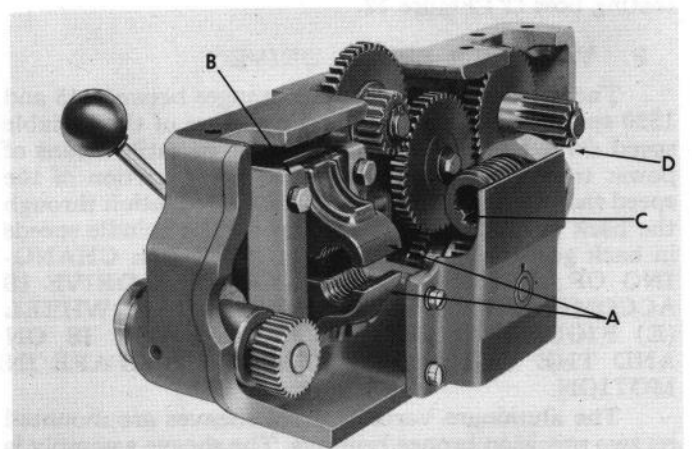
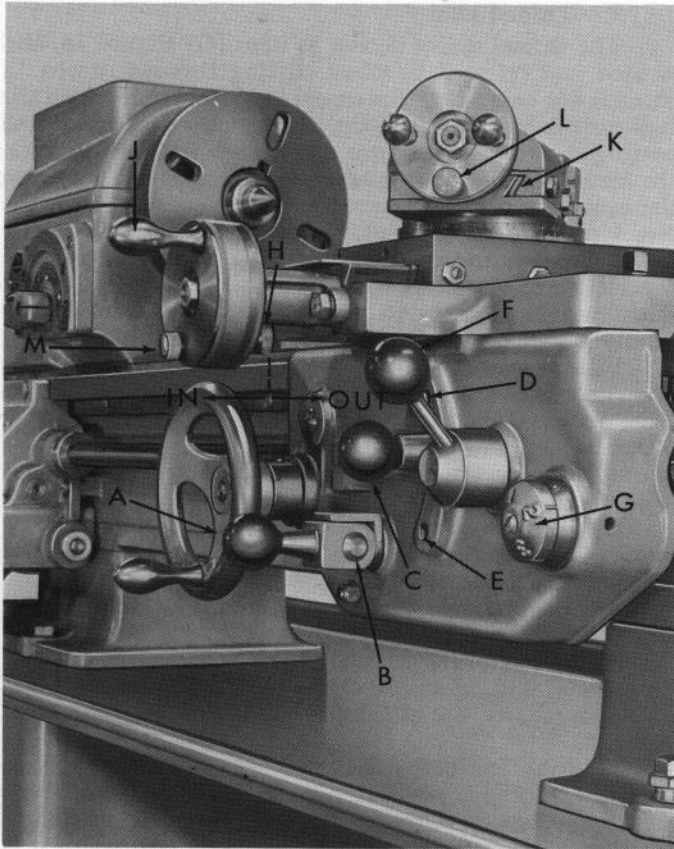

Figure 17
Figure 18
The apron is of double-wall construction for increased strength and rigidity and has an oil sump which supplies oil to lubricate the gears, half-nuts and lead screw. Figure 17 is a view of the interior of the apron showing the half-nuts (A) half-nut shoes (B) which are slidably mounted into the apron wall, the keyed lead screw worm (C) and the gearing (D).
To make repairs to the apron it is advisable to remove the carriage from the bed. First, remove the tailstock, then unbolt the right hand bearing support bracket cap screws which hold the apron to the saddle and which are located on the top of the saddle. Loosen these three cap screws enough so that the apron will drop about a half or three-quarters of an inch. Move the carriage to the right and off the lathe bed. When reassembling the apron, be sure to engage the key in the worm gear (C) Figure 17, into the keyway in the lead screw and move the carriage onto the bed. When retightening the three cap
Clutch (A) Figure 18, controls both longitudinal motion of the carriage and the feeding of the cross slide. It may be adjusted by loosening set screw (B) Figure 18, and rotating handle (A) clockwise full turns, not half turns, until proper tensioning is secured, retighten set screw (B). If, however, this adjustment is too tight and one full turn counterclockwise proves to be too loose, a half turn is necessary. This means that the angle type stop must be rotated so as to have the stop part on top for proper operation of the clutch control knob. To do this, loosen set screw (B) and rotate handle (A) and angle stop together until disengaged from clutch shaft (not shown). Do not lose the relative position of the stop to the control knob when disengaged, but carefully rotate the stop $\frac{1}{2}$ turn and reassemble to clutch shaft and adjust as above mentioned.
Shifter lever (C) Figure 18, is moved upward to lock in hole (D) to feed the carriage and is moved downward to lock in hole (E) to traverse the cross slide. The center position, as shown in the picture is the neutral position, used when the half-nuts are to be engaged for threading.
Lever (F) Figure 18, is moved downward to close half-nuts (A) Figure 17. This lever is used when making threads.
The hub of handle lever (F) Figure 18, has a hidden stop built in it. This stop has two functions: it limits the travel of the lever as well as holding the lever at either of its two extreme positions. The half-nuts can be adjusted for wear by closing them in further on the threads of the lead screw. To adjust: first, close the half-nuts by turning lever (F) in clockwise direction as far as it will go. Loosen set screws in the hub of the lever, allowing hub to turn freely on shaft.
Shifter lever (C) Figure 18 and Lever (F) are interlocked so as to prevent accidentally moving both levers into working position and causing damage to lathe.
The thread dial is shown as item (G) Figure 18, and is used and referred to when cutting threads. When $\frac{1}{4}$ threads are being cut, (for example $5\frac{3}{4}$ threads) drop the half-nuts in on any one of the four numbers of the thread cutting dial. However, you must drop the half-nuts on the lead screw, for subsequent passes across the stock, on the same number you started with. If you start with the No. 1 position on the dial, you must keep dropping the half-nuts when the thread cutting dial indicates the No. 1 position. If you start with No. 2, you must use No. 2 position, etc. As stated above, any one of the four numbers can be used when starting to cut $\frac{1}{4}$ threads.
work at the beginning of the next cut. The built-in stop (H) Figure 18, is provided for this purpose.
The compound feed slide is gibbed, (K) Figure 18, and should be adjusted periodically to maintain a precision fit on the dovetail ways. The base of the compound is graduated in 180 degrees and can be rotated to any position in the horizontal plane. The compound slide is so constructed that when in the maximum forward position on its swivel base, the tool post does not overhang. This gives the tool holder maximum support for all positions for the compound. The compound slide also has a large direct reading micrometer collar, which is graduated in increments of .002", which means that if the diameter of the part is to be made .002" smaller, turning the collar one increment, or .002", will give the proper diameter, although the tool would be advanced only .001". (Please note that if the compound is other than 90 degrees to axis of work piece, the amount removed from the diameter is the product of the sine of the angle).
The three witness marks on the compound adjacent to the micrometer collar are to be used as a vernier. By using the vernier, the operator can read .001" increments on the dial, or in other words, read the half way between the markings on the dial. If the operator desires to reduce the diameter .041", he loosens knob (L) Figure 18, a half turn, rotates calibrated sleeve until zero mark lines up with the center witness mark, then tightens the knob (L). Then turn the handwheel on the compound clockwise slowly until the figure .040" is opposite the center witness mark and continue to move clockwise one-half space. The witness mark on the left will now line up the .044" marking on the dial, see sketch "A" below.